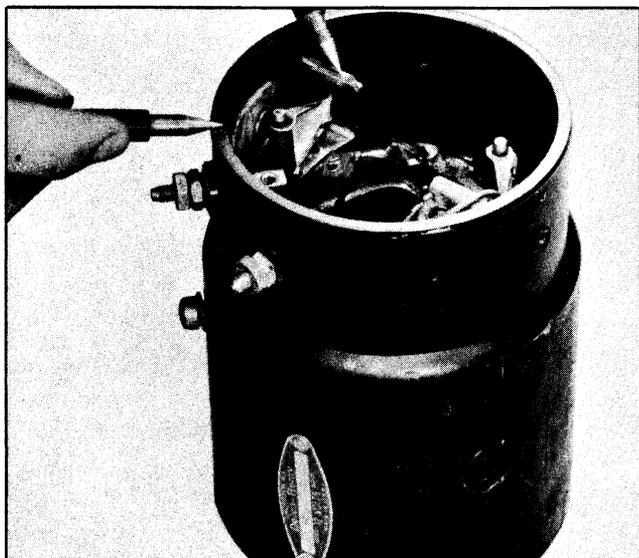

Fig. 13-20 Checking Brush Holder
11. Using a 110-volt test lamp, place one lead on the positive or insulated brush holder and the other lead on generator frame. If lamp lights, the brush holder is grounded due to defective insulation at the frame. (See Fig. 13-20)